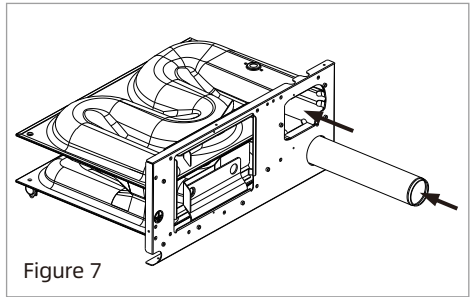

Figure 7
5. Inspect combustion chamber for restrictions in exhaust or intake. It is imperative that the flow of intake combustion air and the flow of exhaust gases being expelled to the outside atmosphere not be obstructed. Any soot or loose debris should be blown out using compressed air. See Figure 7.